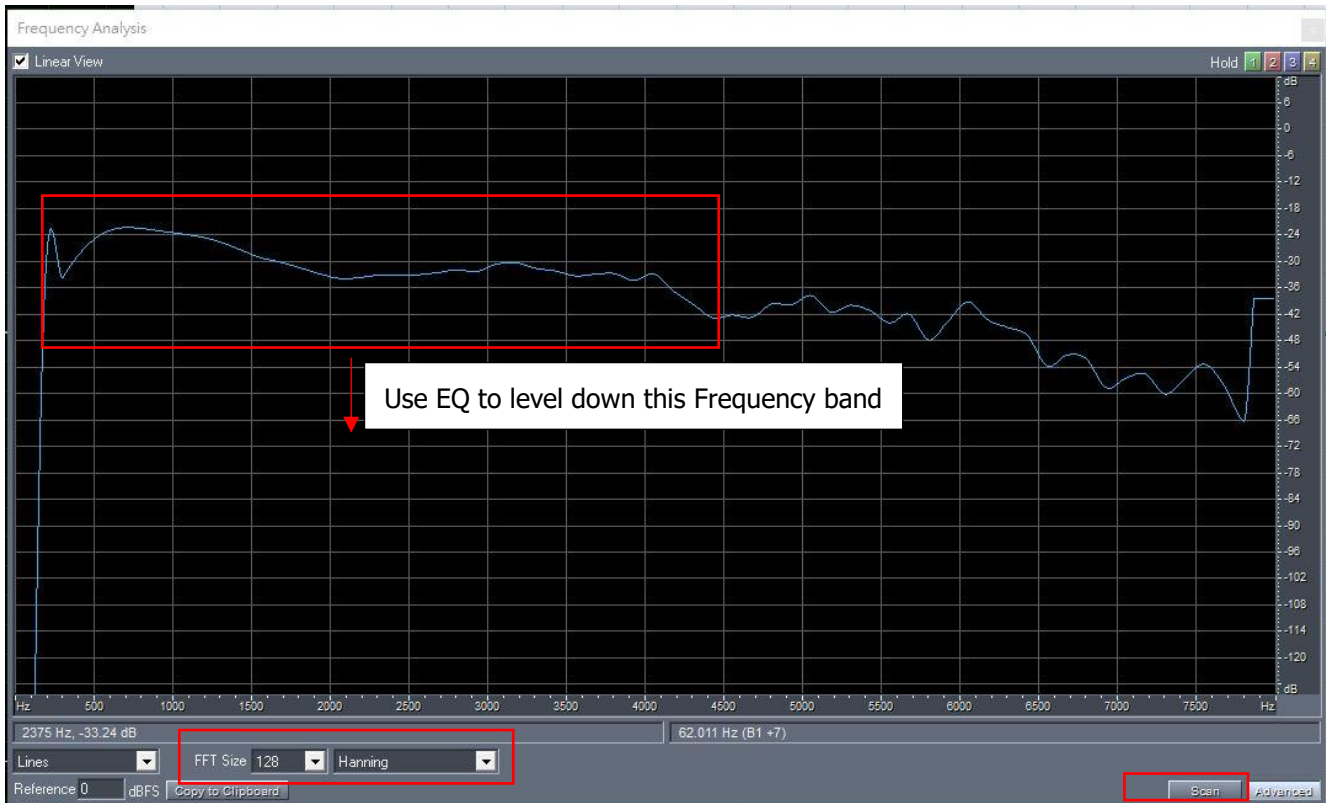

Figure 24: The acoustic echo frequency response.
domain. Show as Figure 24.
Step 2: Enable the EQ in AO path, and using EQ suppress the power which is higher frequency response. Show as Figure 24. The EQ setting method please see the chapter 12